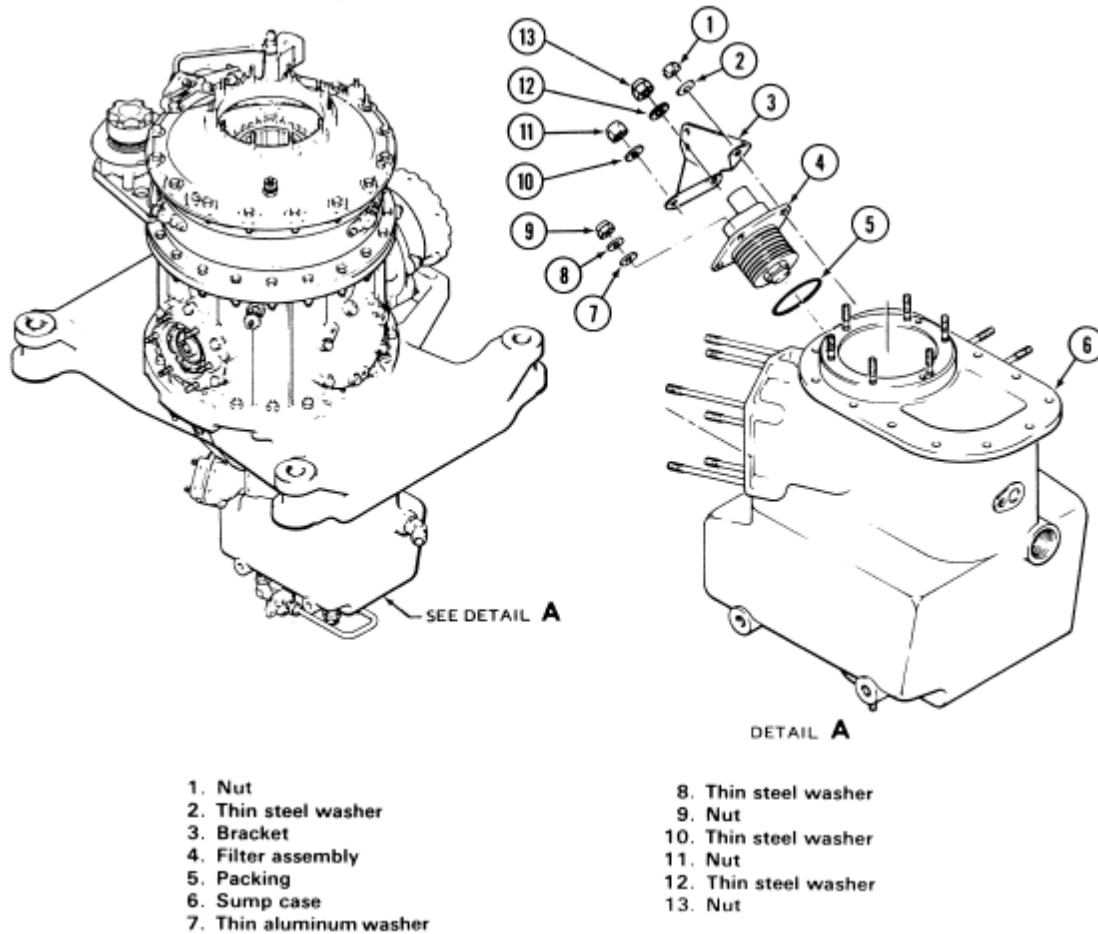

Figure 63-22. Sump Internal Filter (pre TB 212-91-131)
63.5.7.1.2 Remove nuts (1, 11, and 13, Figure 63-22) with washers (2, 10, and 12). Remove oil hose support bracket (3).
Filters may be disassembled for cleaning if necessary, but should only be done if not possible to clean sufficiently while assembled. Refer to Figure 63-22 for procedures.
63.5.7.2.2 Wash filter (4, Figure 63-22) with solvent (C-304).
63.5.7.4.1 Lubricate new packing (5, Figure 63-22). Install packing on filter (4).